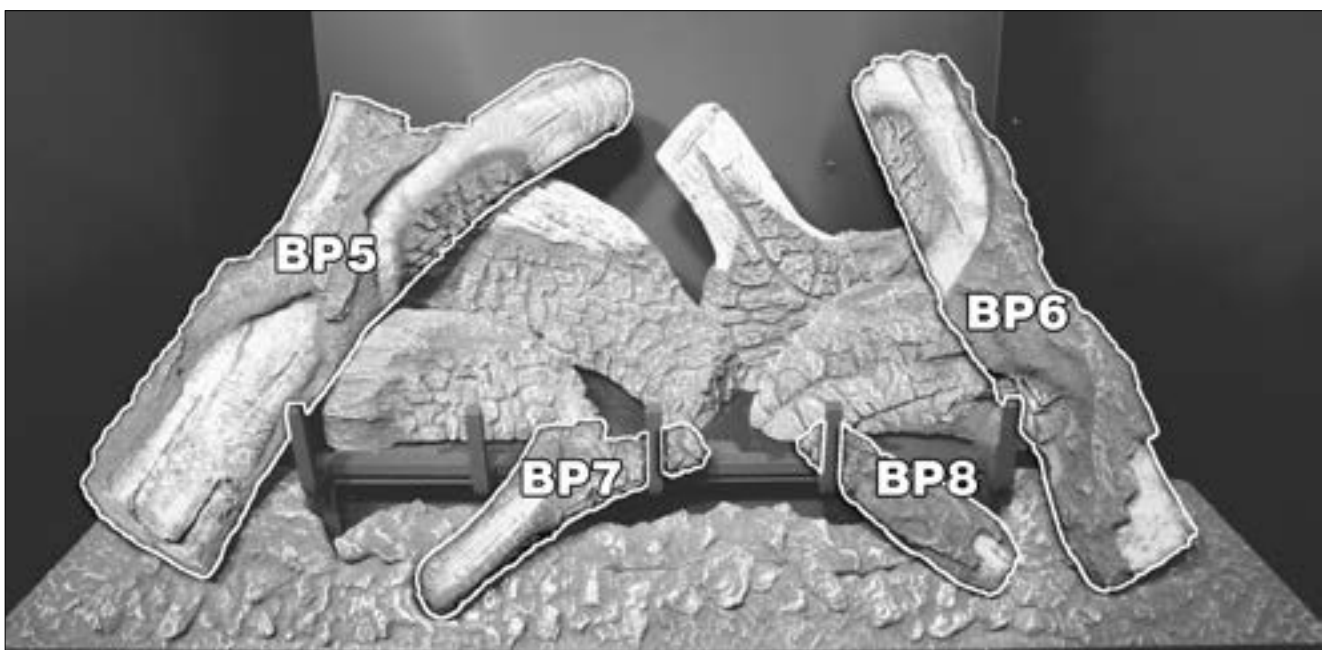

Figure 9.2, Installed Log Set
4. Align logs BP7 and BP8 as shown in Figure 9.2.